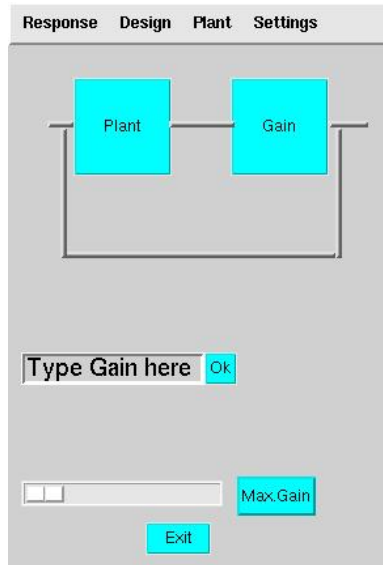

Figure 2.2: The control center
- (b) Gain is in the feedback path.The default is (a). Selecting a particular gain configuration also results in that being displayed in the control center. For example, figure 2.2 shows that the current mode is “Gain in forward path”.